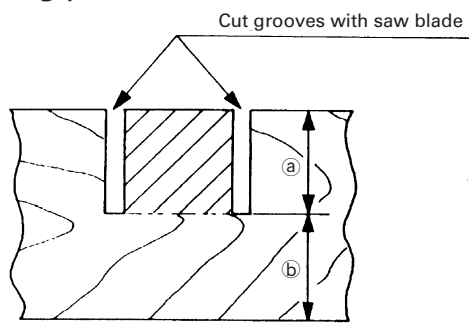

Fig. 38
Grooves in the workpiece can be cut as indicated in Fig. 38 by adjusting the 8mm depth adjustment bolt.
- (1) Loosen the 8mm wing nut and turn the 8mm depth adjustment bolt by hand.
- (2) Adjust to the desired cutting depth by setting the distance between the saw blade and the surface of the base (see ⑥ in Fig. 38).
- (3) The 8mm wing nut must be properly tightened after the adjustment has been completed.